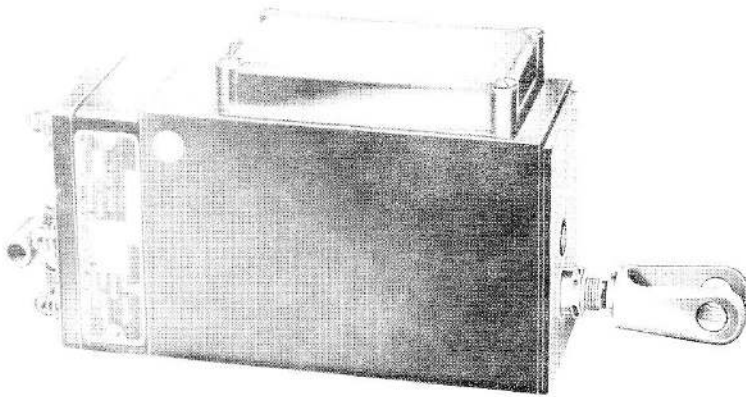

Fig.1 General view of actuator, Type AE 4028
1. The linear actuator, Type AE 4028 (Fig.1) has been designed to provide remotely controlled linear motion against tensile and compressive loads up to a maximum of 150 lb.